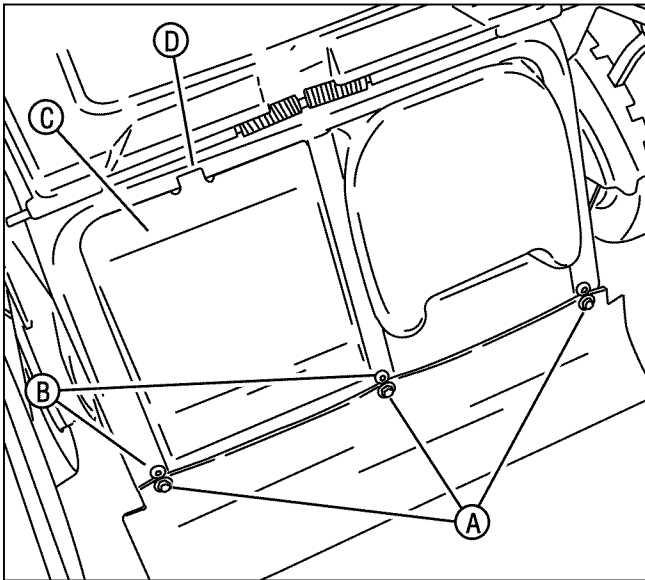

Figure 24: Removing the rear cover
1. Remove the three fasteners (**A**, Figure 24) securing the rear apron to the machine.